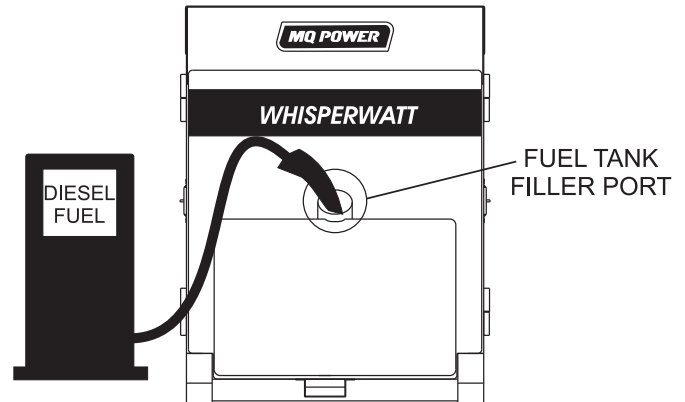

Figure 34. Fueling the Generator
2. Remove fuel cap and fill fuel tank as shown in Figure 34.